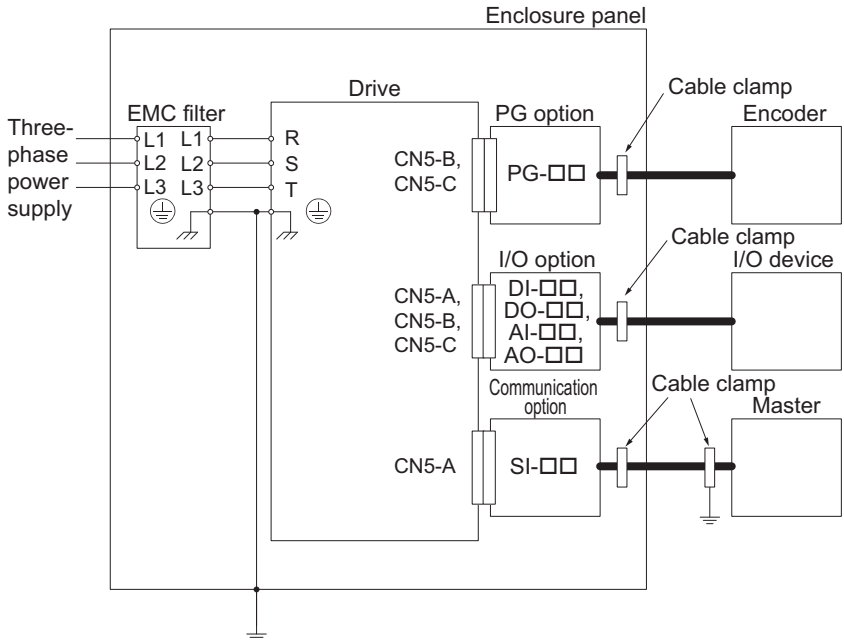

Figure 21 Option Installation for CE Compliance (PG-□□, DI-□□, DO-□□, AI-□□, AO-□□, SI-□□)
2. Keep wiring as short as possible and ground the largest possible surface area of the shield to the metal panel according to Figure 21.